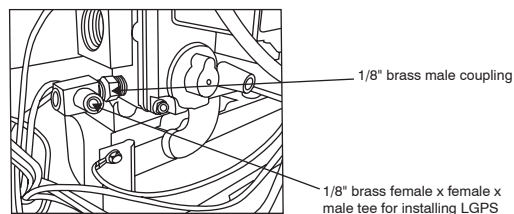

Fig. 28 - Gas Valve Inlet Pressure Tap
3. Apply pipe dope sparingly to one end of 1/8-in. (3 mm) brass male coupling (provided in kit) and install the doped end in 1/8-in. (3 mm) tapped opening in gas valve inlet pressure-tap. Tighten fitting with a small open-end wrench. (See Fig. 28.)
4. Apply pipe dope sparingly to opposite end of the 1/8-in. (3 mm) brass coupling (provided in kit). Install the female end of the female x female x male tee on the brass coupling. Tighten coupling finger tight. Use a small open end wrench for final tightening. (See Fig. 28.)